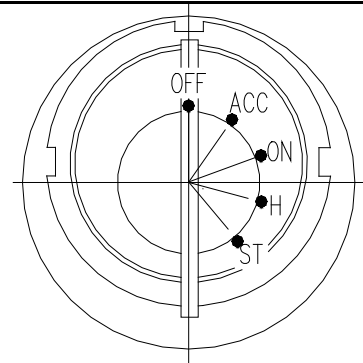

Fig. 3-25 Ignition lock
- Position the hand accelerator at half state, as shown in fig.3-25.